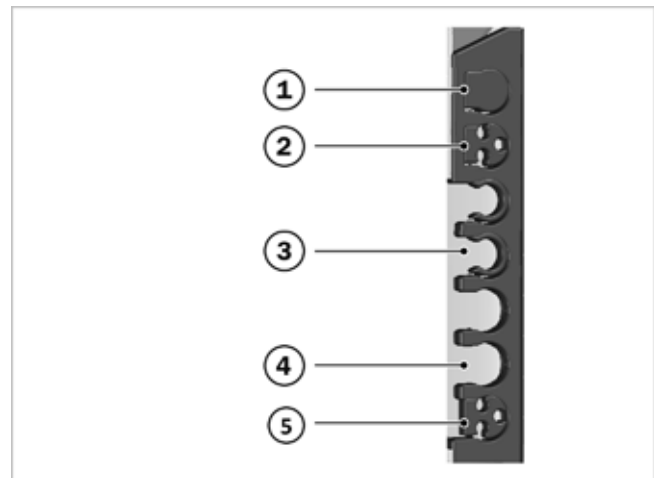

Fig. 41: Inserts for the pipe lead-throughs
4. Using a 3x reducer (see → fig. 41, 2), guide the other end through the pipe lead-through on either the left or right-hand side of the frame. Ensure that there is a sufficient incline.
2. Guide the gas line through one of the top pipe lead-throughs on the left or right-hand side of the frame using a 3x reducer (see → fig. 41, 2).